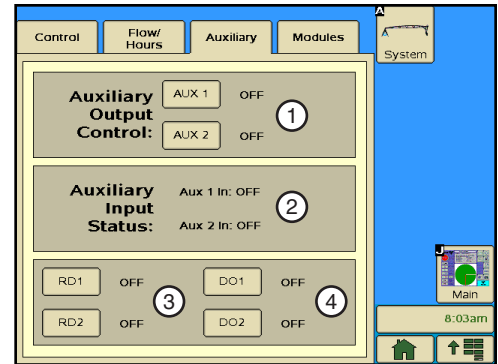

Figure 15-1 1. Auxiliary Output Control
The Auxiliary screen provides auxiliary output control, the status of the Auxiliary Inputs, and control of the RD1, RD2, DO1, and DO2 relays. Refer to Figure 15-1.
1. Push **System, Auxiliary** to display the Auxiliary screen. Refer to Figure 15-1.